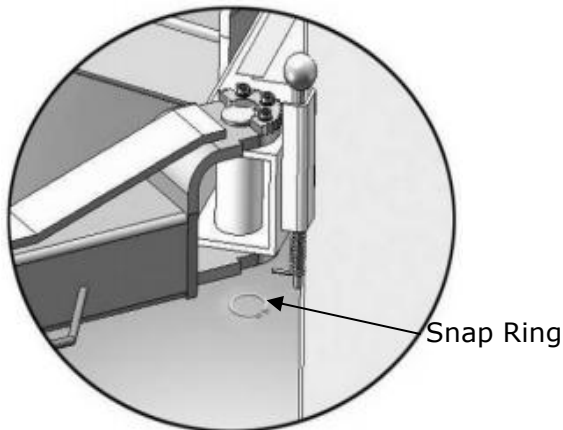

Fig. 23
1. After installing the lifting arms (**See Fig.23**).